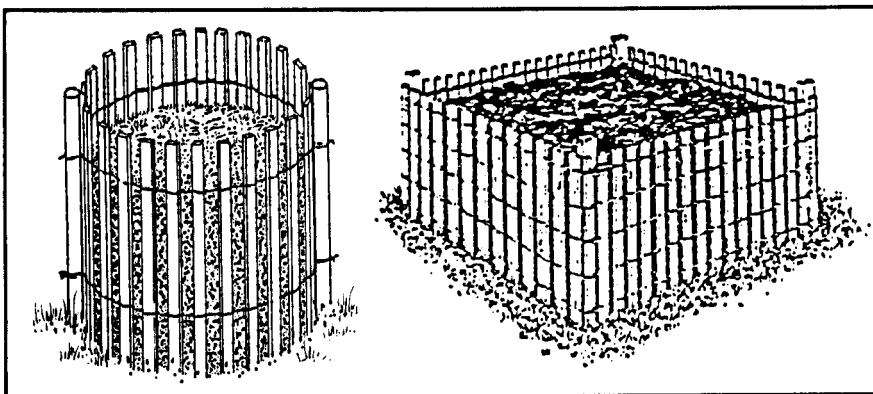

Figure 3. Snow fence bins
**Snow Fence Bins.** Bins made with prefabricated snow fencing (Figure 3) are simple to make and easy to move and store. To build this bin, the appropriate length of prefabricated fencing must be supported with 2"x4"s to make it stand and maintain its shape. With wire attach the 2"x4"s to the bottom and ends of the fencing to form